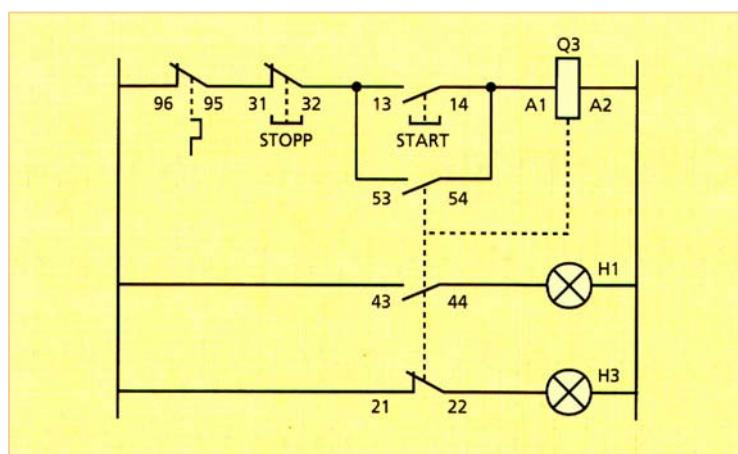

Fig. 3.7 Motor control circuit with a hold-in circuit.
- Connect the control and contactor module to a control circuit as shown in figure 3.7